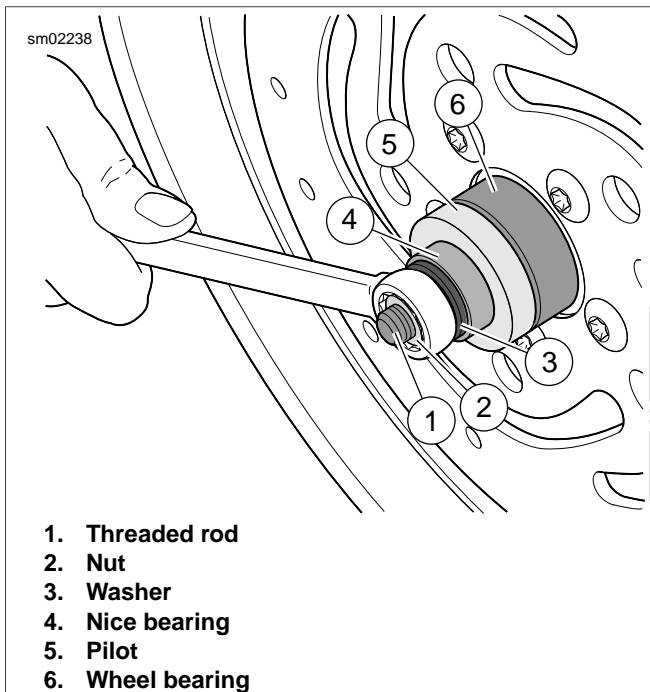

Figure 2-18. Installing Bearing
- See Figure 2-18. Place the **new** bearing (6) on rod (1) with lettered side facing away from wheel center-line.
- Install pilot (5), Nice bearing (4), washer (3) and nut (2) over rod.
- Hold hex end of threaded rod (1) and turn nut (2) to install bearing (6) into primary side of hub. Bearing will be fully seated when nut can no longer be turned. Remove tool.